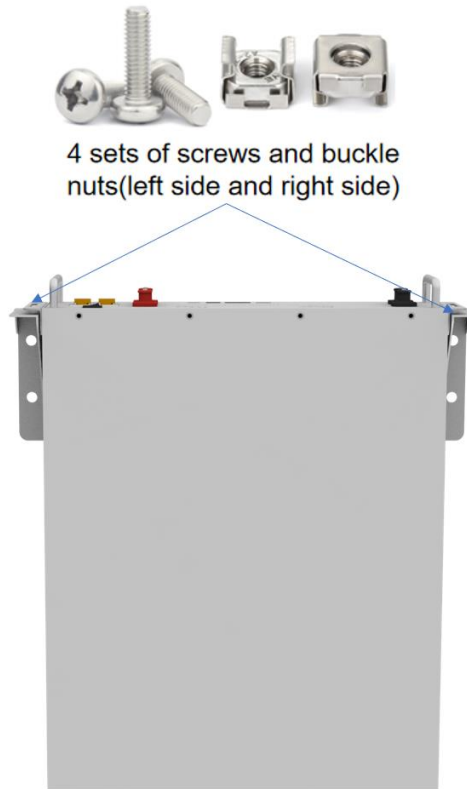

Figure 4-4
e) Carry the battery and hold it. Fix the battery to the support after fixing it to the wall. Ensure that battery mounting ears are aligned with the left and right holes on the support, as shown in Figure 4-4.